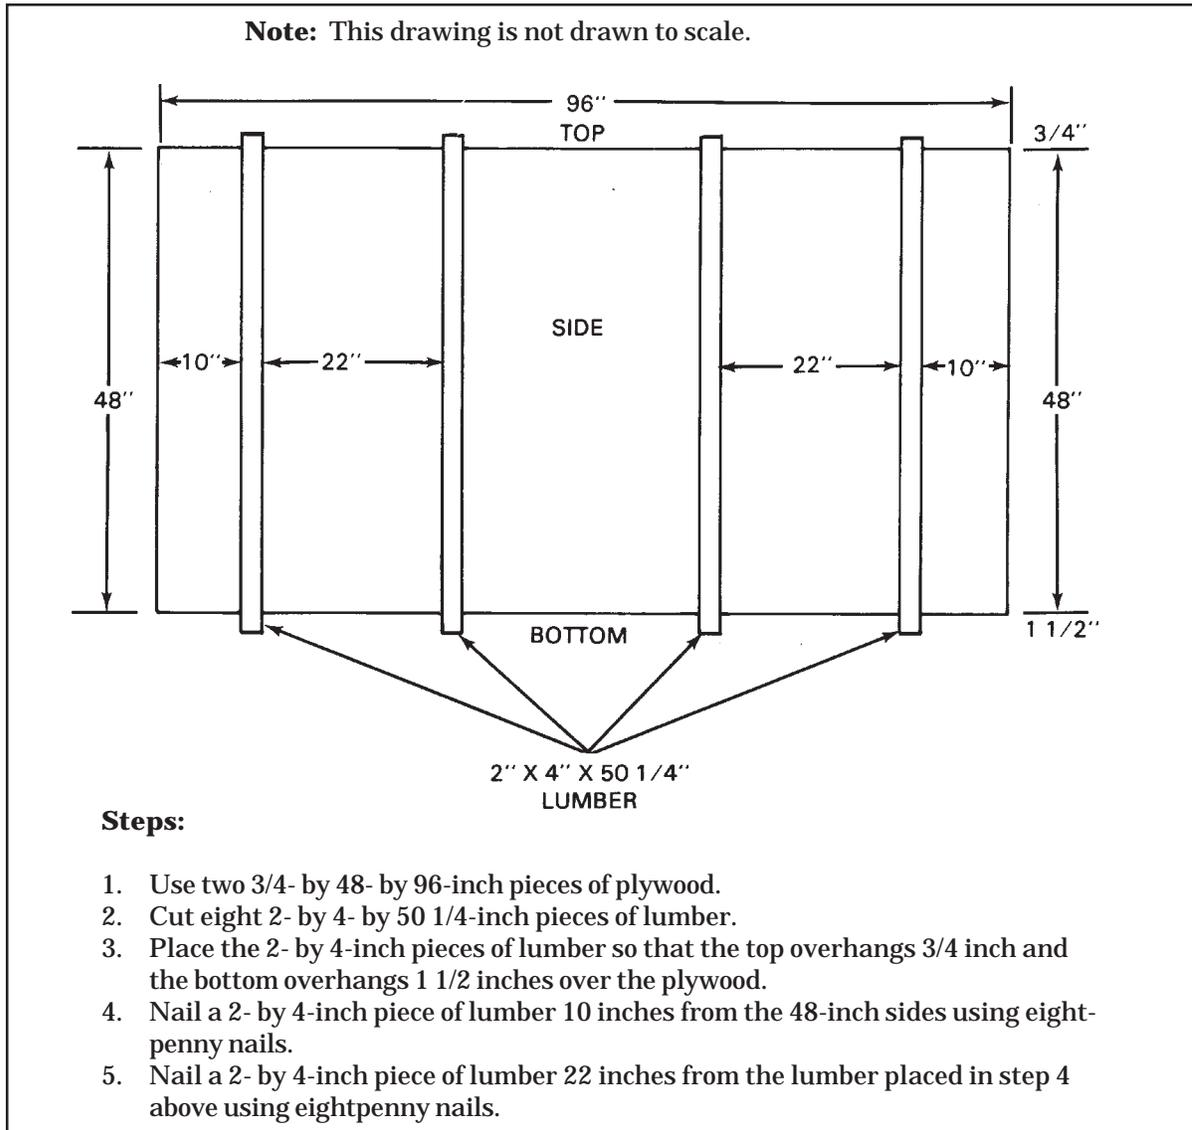

Figure 1-4. Sides for FARE Container Built
- b. BUILDING SIDES.** Build the sides for the container as shown in Figure 1-4.